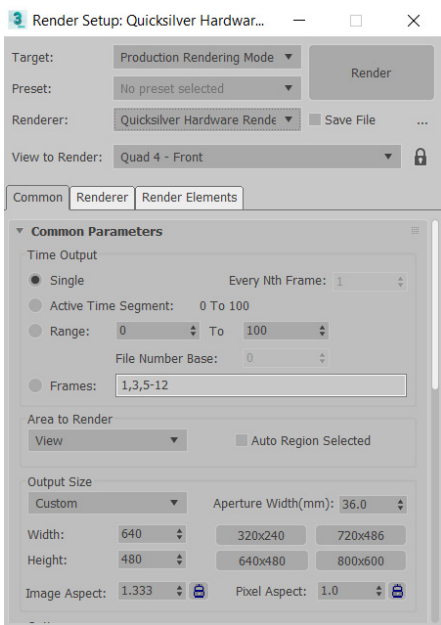
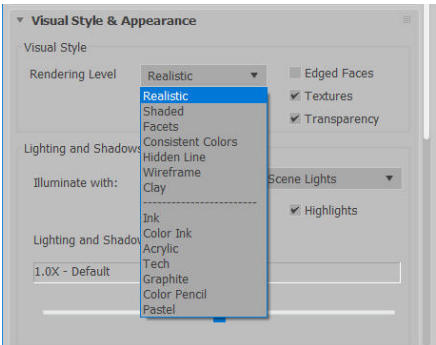

Figure 2-45 The partial view of **Render Setup: Quicksilver Hardware Renderer** dialog box
Figure 2-46 The **Rendering Level** drop-down list
3. Choose the **Renderer** tab; various rollouts will be displayed, refer to Figure 2-45. In the **Visual Style** area of the **Visual Style & Appearance** rollout, various options are available in the **Rendering Level** drop-down list, as shown in Figure 2-46.